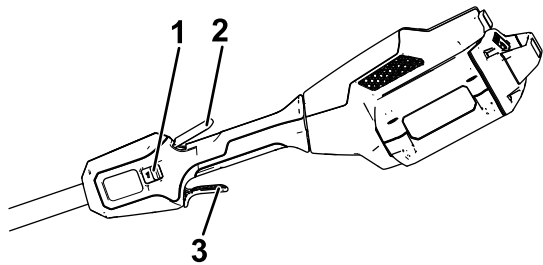

Figure 7
4. To start the trimmer, squeeze the lockout trigger, then squeeze the run trigger (Figure 7).